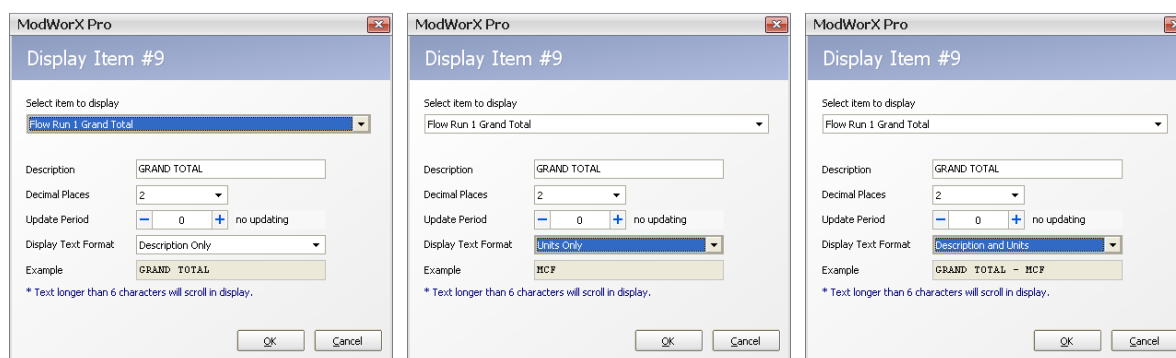

Figure 3.18
6. Select the way you want the parameter to be identified in the lower half of the LCD. The Example field in the following screen captures shows the various description and unit options available (Figure 3.18). The options are: